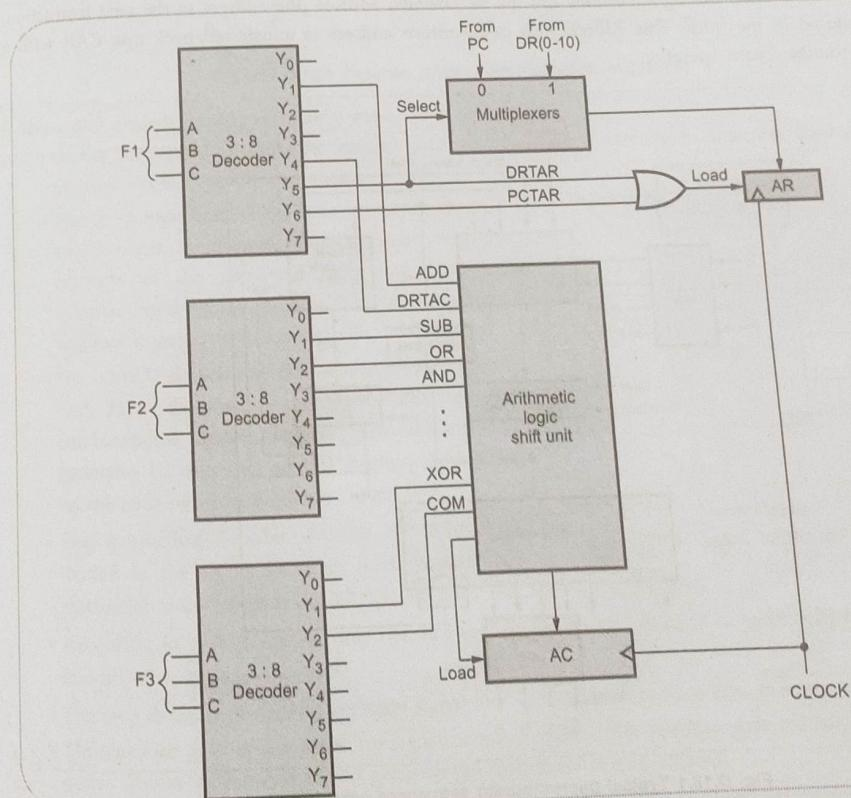

Fig. Q.17.1 Decoding of micro-operation fields and their further processing
**Ans. :** Fig. Q.17.1 shows the block diagram to decode micro-operation fields and their further processing. (see Fig. Q.17.1 on next page.)
The functions of blocks in Fig. Q.17.1 are explained below.
operation in the arithmetic logic shift unit. The Fig. Q.17.1 shows some of the outputs of decoders connected to the arithmetic logic shift unit. The other outputs of the decoders that are associated with an AC operation are also connected (not shown in the Fig. Q.17.1) to the arithmetic logic shift unit.